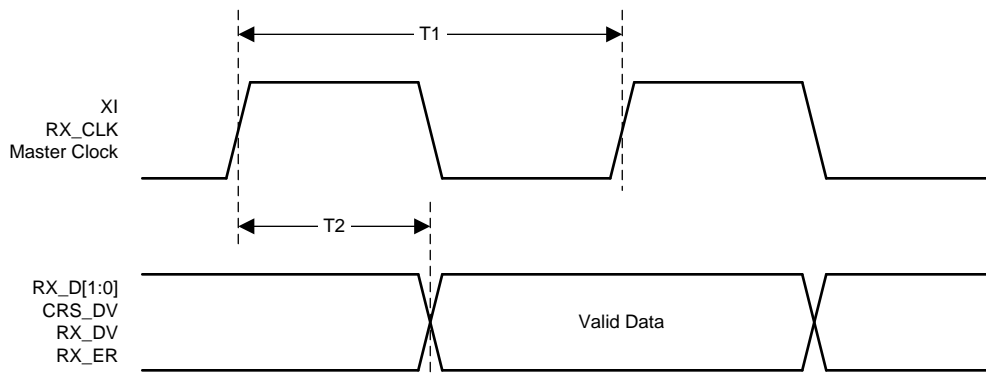

Figure 9. RMI Receive Timing
(1) Ensured by production test, characterization or design.
(2) See Figure 9.